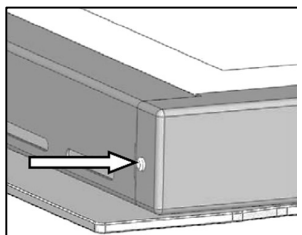
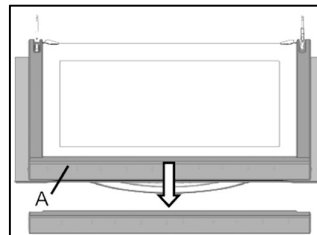
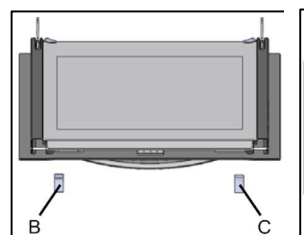

Figure 11
Figure 12
Figure 13
- Remove the seal A (Figure 12), B, C (Figure 13) by pushing the no. 2 rods of left and right sides (Figure 11)